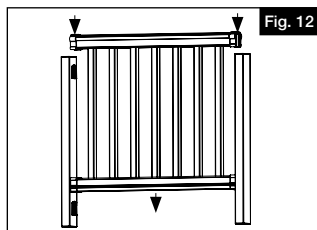

Fig. 12
- a. Once all four dovetails are attached to uprights (step 3) and brackets are connected to rails (step 4), then carry the assembled rail/gate and slide brackets over the dovetails on the uprights (Fig 12).